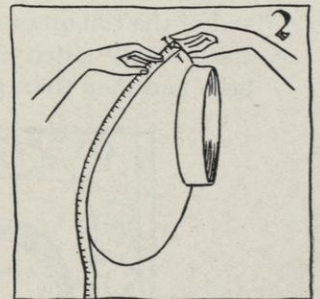

FIG. 2.
- b. Draw the tape measure right over the edge of the brim (see Figure 2) until you reach the starting point.